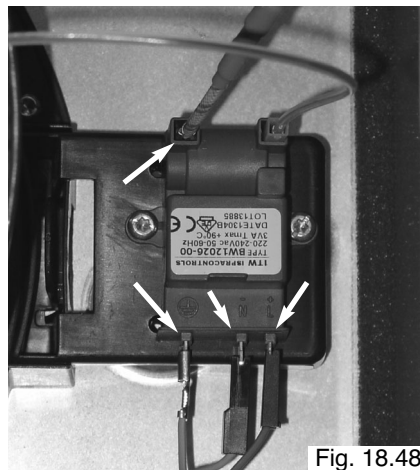

Fig. 18.48
3. Disconnect the ignition electrode, live, neutral and earth cables from the ignitor. (Fig. 18.48);